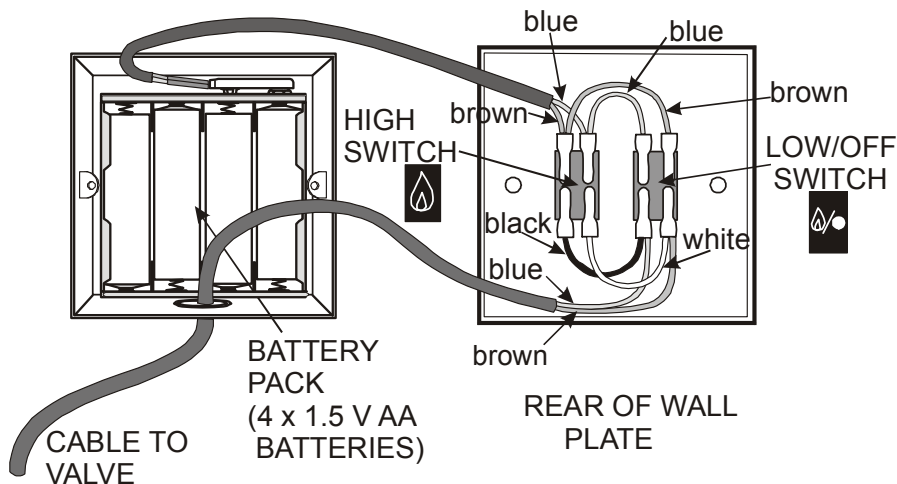

Figure 72
3. Make the connections on the wall switches as shown in **Figure 72**.